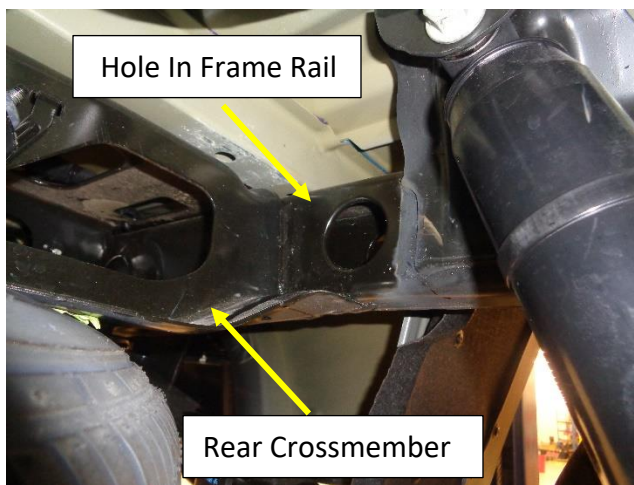

Figure 6
10. Locate the large round hole in the left frame rail just behind the shock. **Fig. 6**